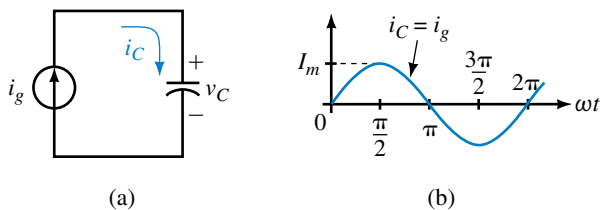

FIGURE 16–30
2. Refer to the circuit of Figure 16–31(a):